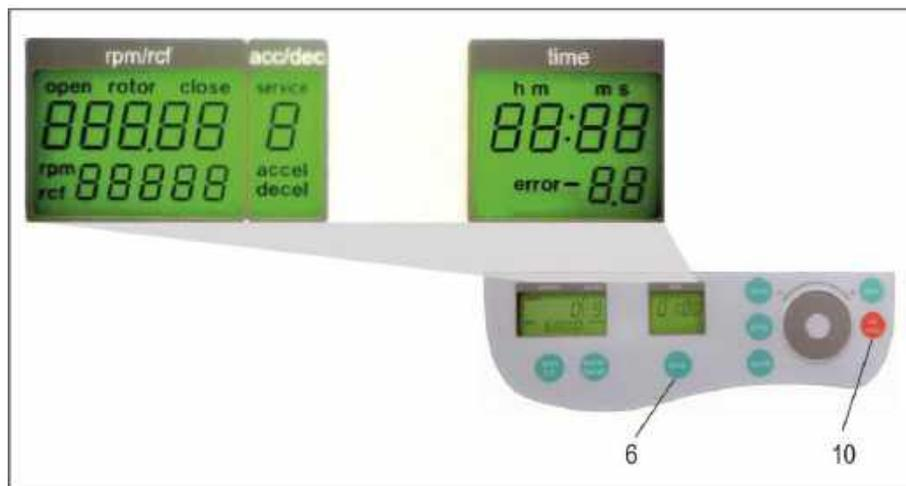

Figure 1
Open the centrifuge lid and shut off the main switch. Now switch on again the main switch. For approximately 3 seconds “Z 207 H” will be shown in the display. Press during this time the keys “time” (6) and “lid” (10) simultaneously. As a result, a display test is administered for approx. 3 seconds. All possible indications will appear at the same time (see Figure 1).